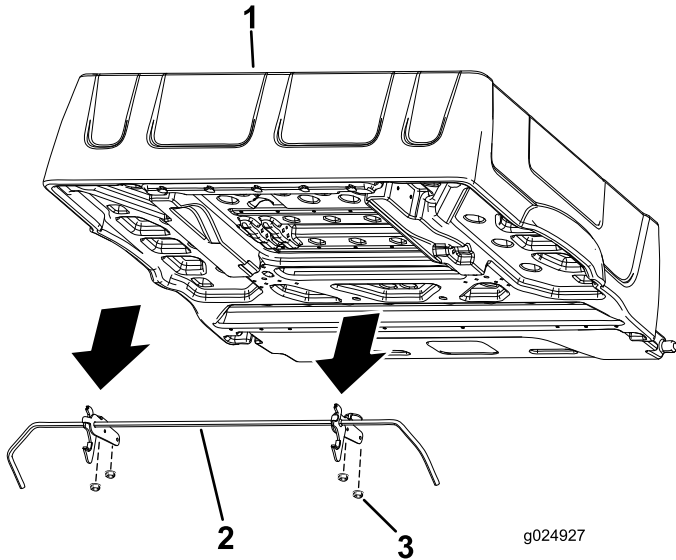

Figure 2
4. Remove the 4 flange nuts securing the latch-rod brackets to the underside of the box (Figure 2).